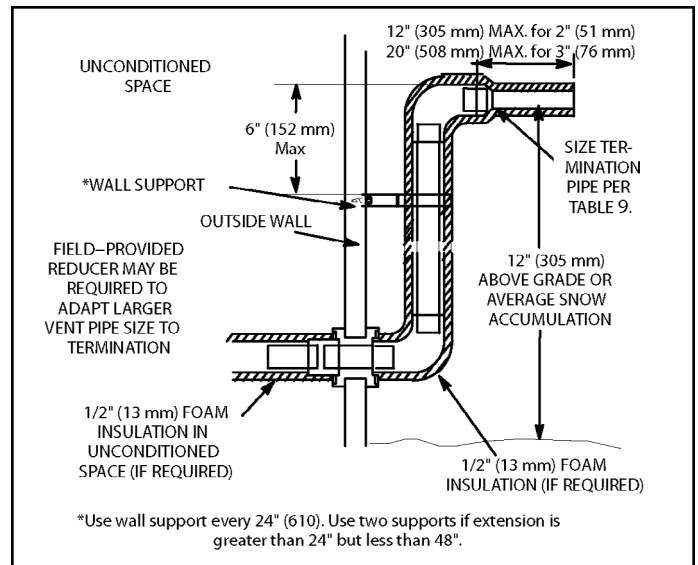

Figure 41. Non-Direct Vent Field Supplied Wall Termination Extended
3. If exhaust piping must be run up a sidewall to position above snow accumulation or other obstructions, piping must be supported every 24" (610 mm) as shown in Figure 41. When exhaust piping must be run up an outside wall, any reduction in exhaust pipe size must be done after the final elbow.